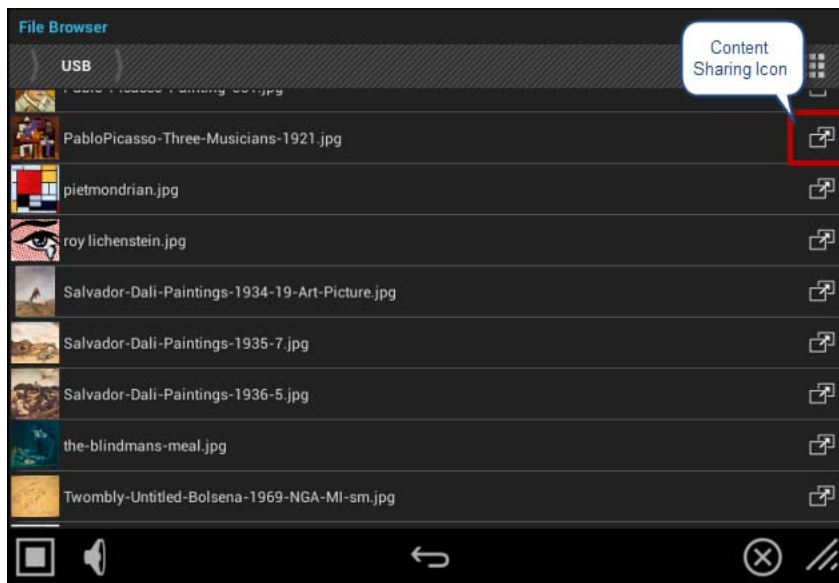

FIG. 147 File Browser - Content Sharing Icons
- Note that in the File Browser application, Content Sharing icons are presented for each file. An example view of the File Browser application is shown in FIG. 147: